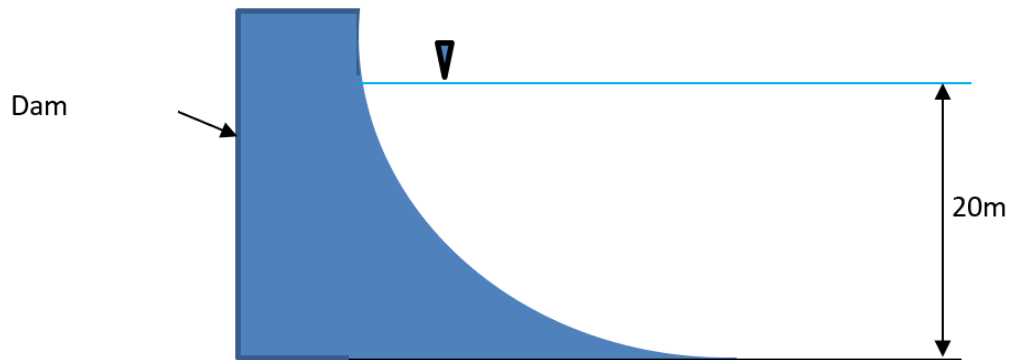

Figure 2
- (b). The curved face of a dam retaining water of depth 20 m is shaped according to equation $y = \frac{x^2}{6}$ as shown in **Figure 2**. For a unit width of the dam, determine the magnitude and direction of the resultant water pressure acting on the curved surface of the dam.